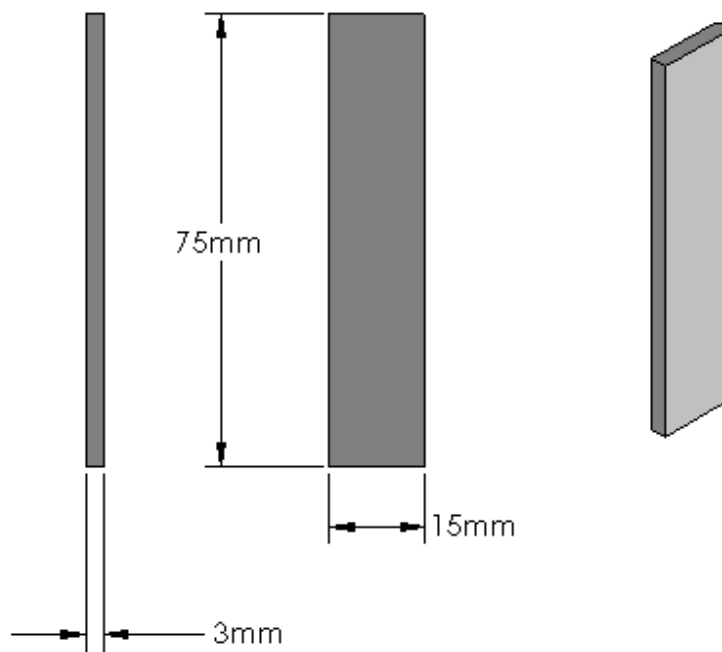

Figure 4-5: Ringseal Removal Tool Dimensions
4. With the collet and collet nut removed, the ringseal will now be exposed. Using a tool dimensioned in Figure 4-5, unscrew the ringseal from the collet sleeve.